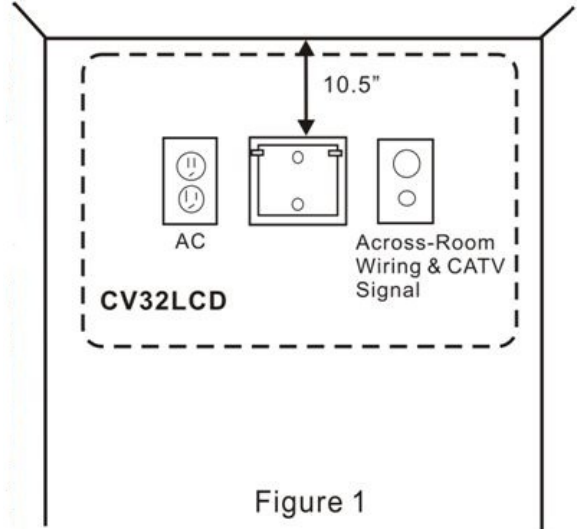

Figure 1
**Refer to Figure 1.** Select a location on the wall approximately 9 inches below the ceiling.
- 1 Refer to Figure 1. For the CLEAR VIEW-CV32LCD find a location on the wall 10.5 inches below the ceiling to mount the HD Extended LCD Tilt Clevis (wall mount).